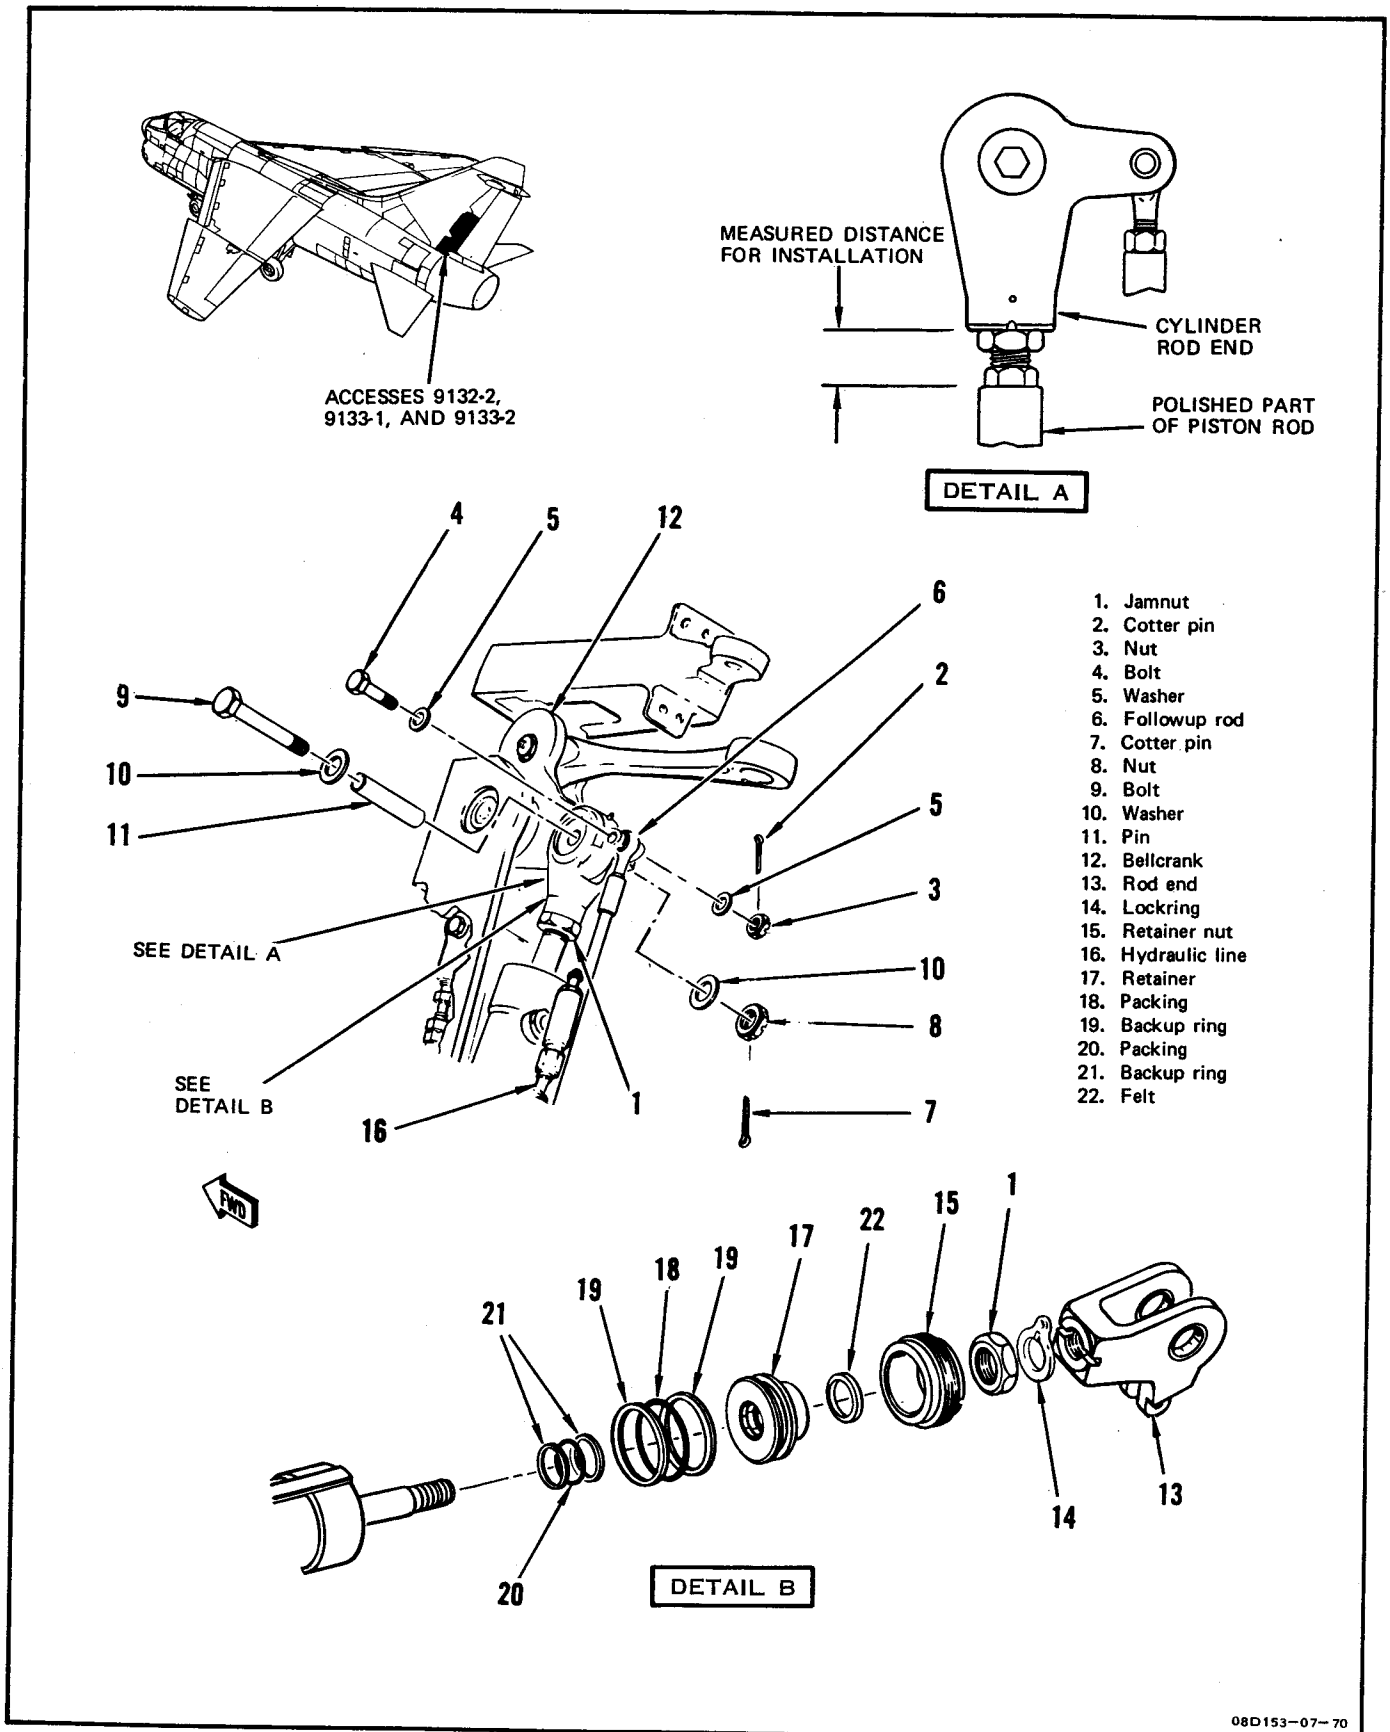

Figure 5-16. Rudder PC Cylinder Rod End Seal Replacement
5-73. REMOVAL. (See figure 5-16.)
d. Loosen jamnut (1, figure 5-16) on rod end.
5-74. INSTALLATION. (See figure 5-16.)
r. Install cotter pins (2 and 7, figure 5-16) to secure rod end (13) to bellcrank (12).